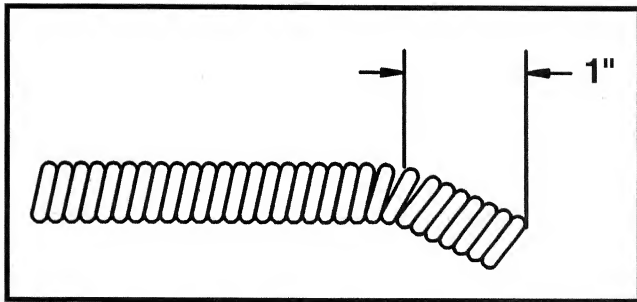

Fig. 2
1. Use a vise or a pair of pliers to make a bend in the tail end of the cable. This bend should be approximately 30°, and located about 1" from the tail end of the cable (see Fig. 2).